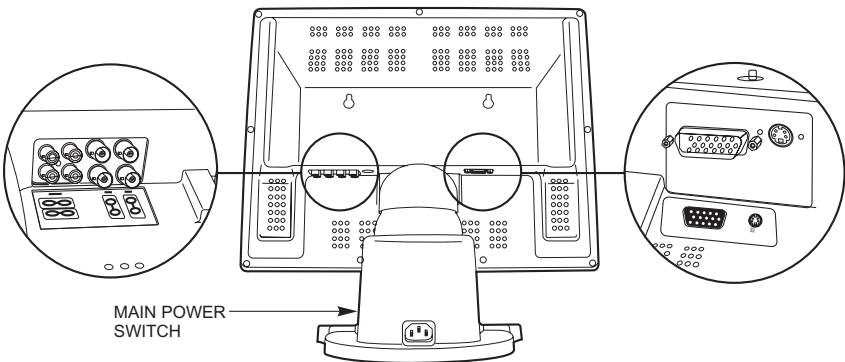

Figure 1. PMCL15A, Rear View
2. Refer to Figure 1 and connect the video signal to the monitor. Refer to Table A for video coaxial cable requirements.
1. Turn the monitor's main power switch ON. The power switch is located on the base of the monitor (refer to Figure 1).